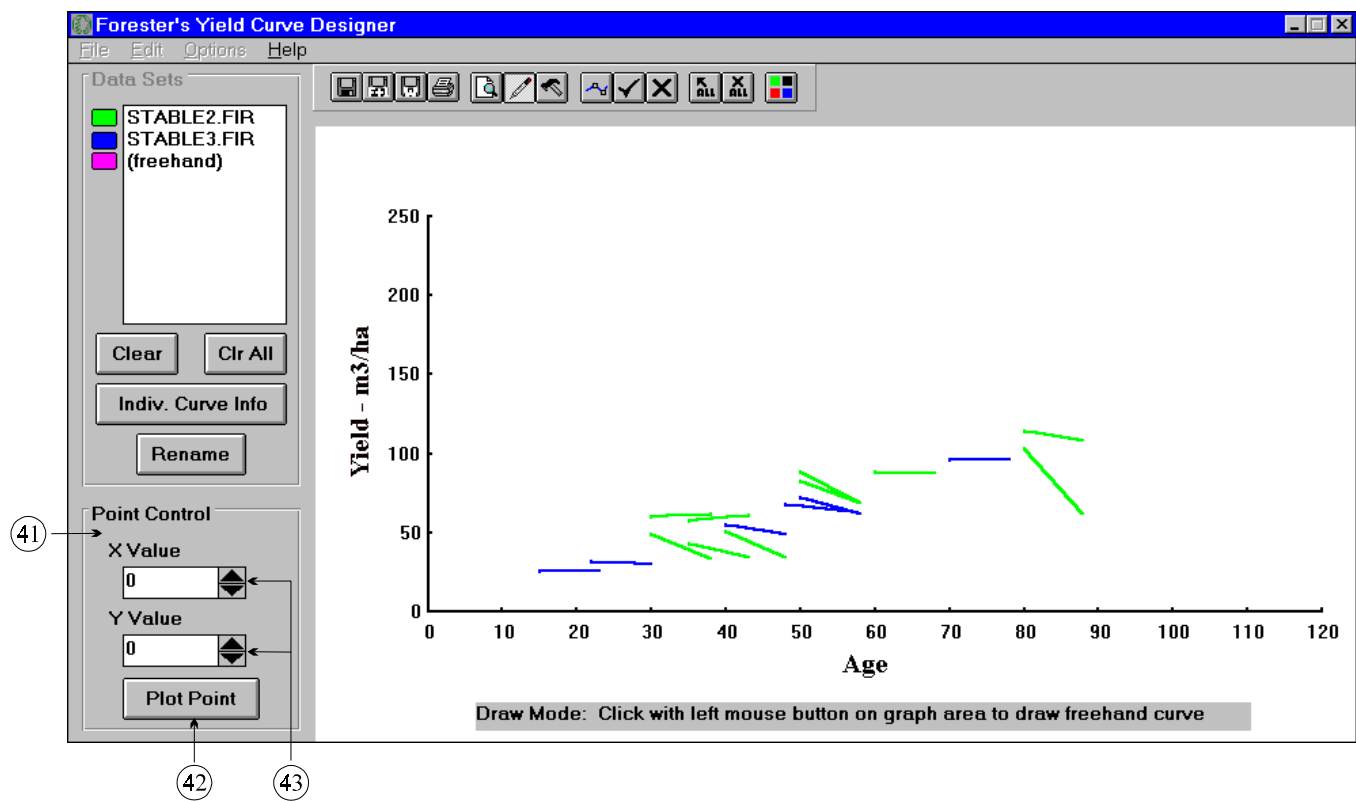

Figure 4 - Main window displaying draw mode
8. Draw button:  Enters *freehand* draw mode allowing the creation of a custom curve. Each click will represent a new vertex of the curve. A colored line connects these vertices. The point control box (see Figure 4) can also be used to plot points.
20. Y-axis label: Identifies the type and units of information being displayed (*volume/ha*, *volume/tree* or *stems/ha*). This label can be changed (109).
22. Curve segments that form a *data set*. In this Figure 4, the data were read in from a file called STABLE3.FIR, therefore the data set is named STABLE3.FIR in the legend.